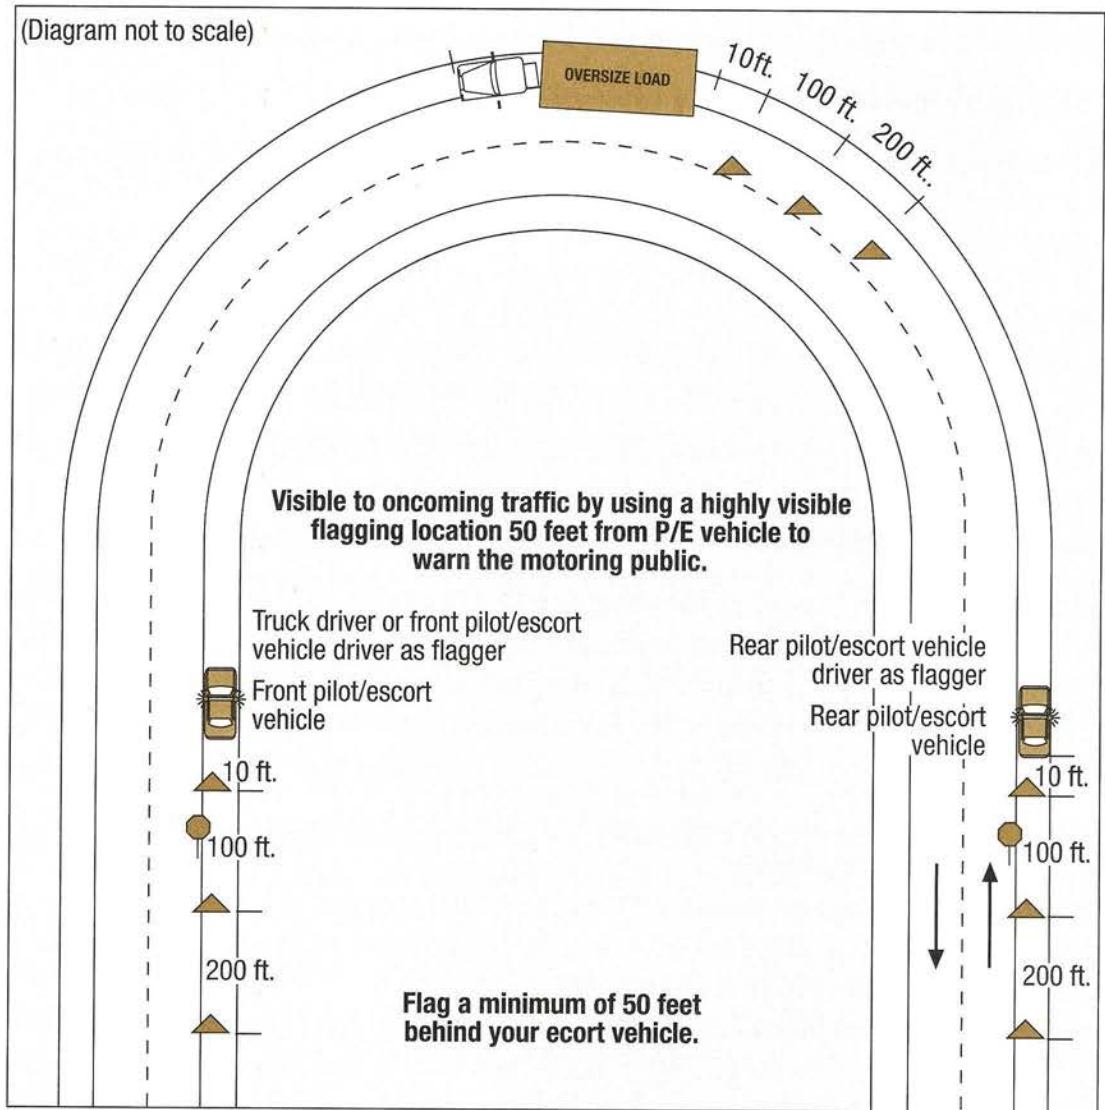

FIG. 6.3-3 BLIND CORNER OR HILL WARNING DEVICE PLACEMENT & FLAGGER LOCATION
- For accidents occurring within 500 feet of a curve or crest of a hill: (See Figure 6.3-3).